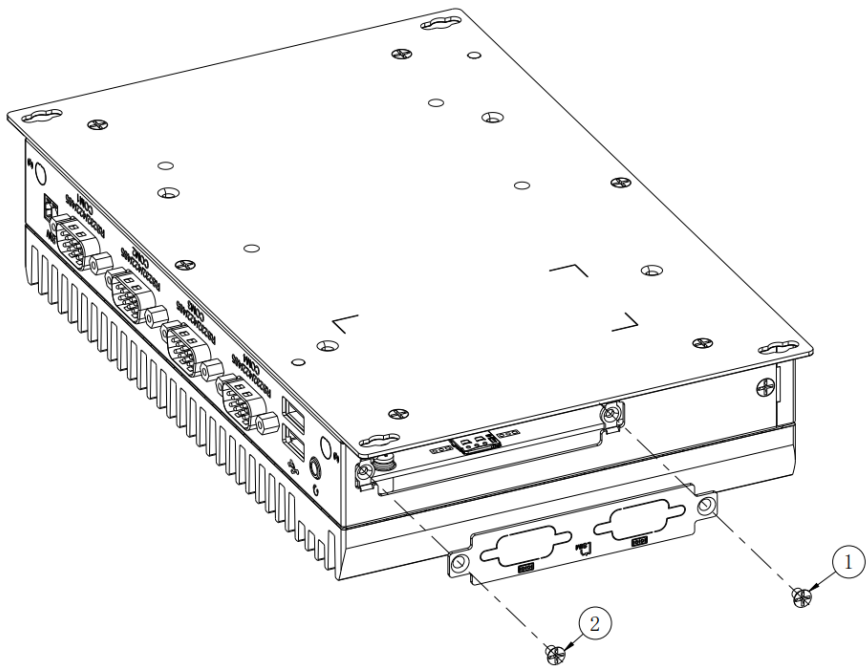

Figure 3.3-1
2. Push/remove the SIM card into the card slot and lock the cover bracket back to its position, as shown in Figure 3.3-1.